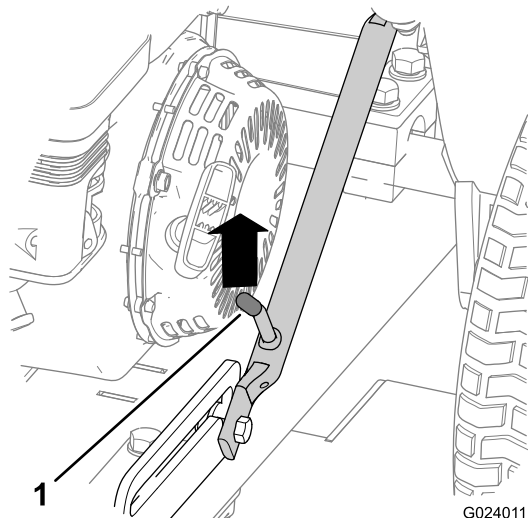

Figure 18
1. Push up on the hitch assembly until the latch lever is unlocked from the slide detent (Figure 18).
5. Raise the hitch (Figure 23) until the latch lever locks in the side detent (Figure 18).